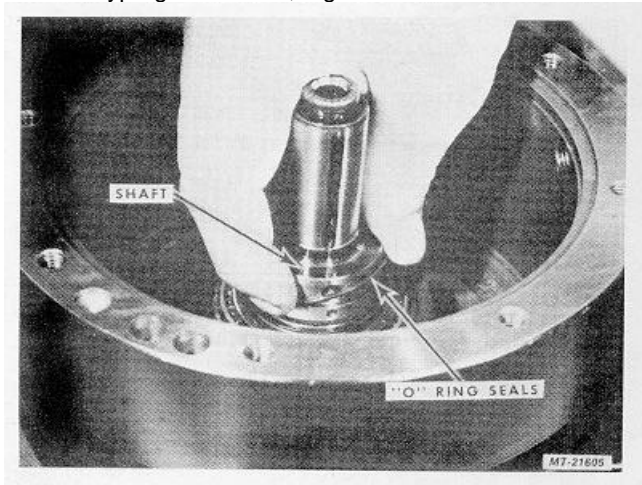

Fig. 75
38. Install two "O" Ring Seals in their grooves on Shaft and coat the "O" Rings with a crystalline type grease or oil, Fig. 75.